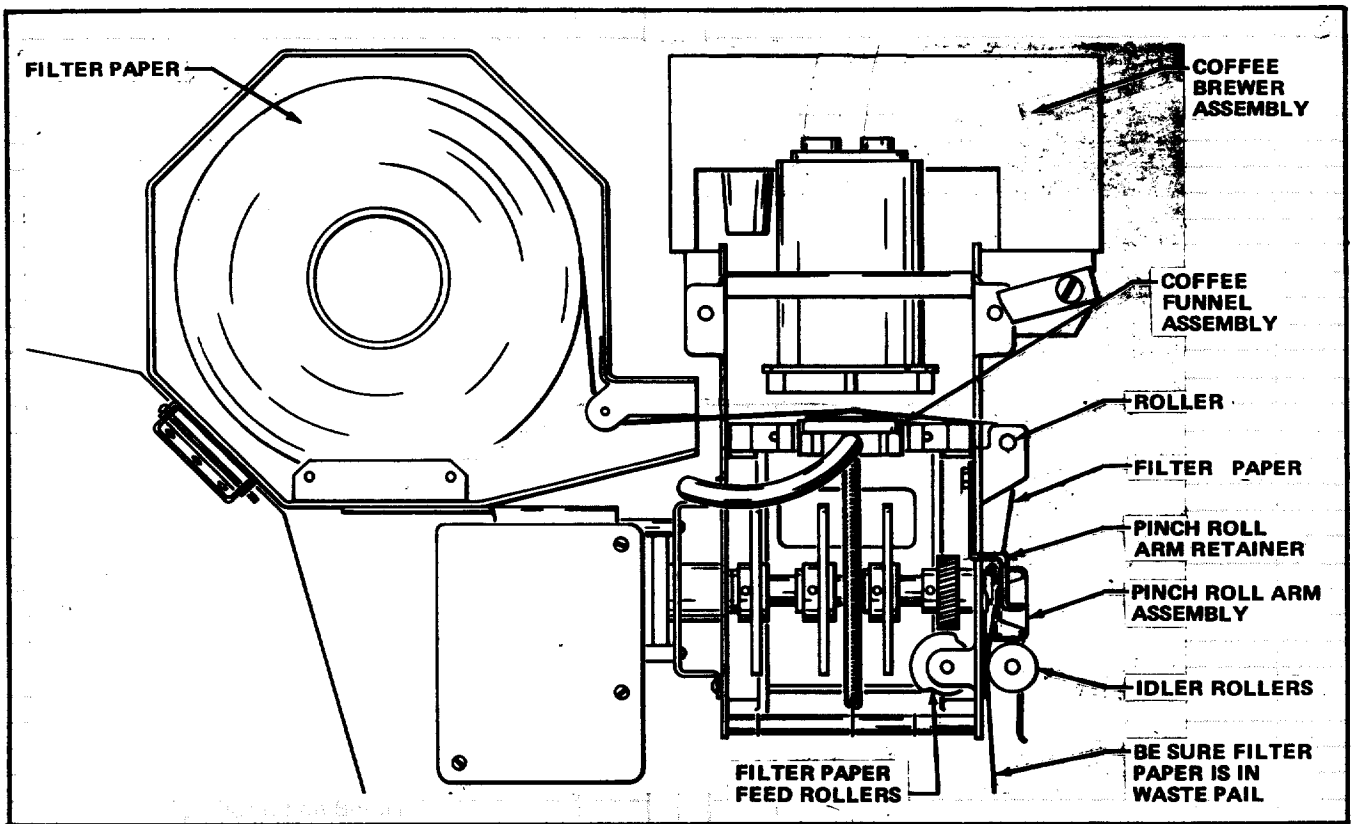

FIGURE 11
24. Lift the Pinch Roll Arm Retainer and hold open the Pinch Roll Arm Assembly. Thread the Filter Paper over the Coffee Funnel Assembly, over the right hand roller, between the Filter Paper Feed Rollers and Idler Rollers, and down into the Waste Pail. See Figure 11.